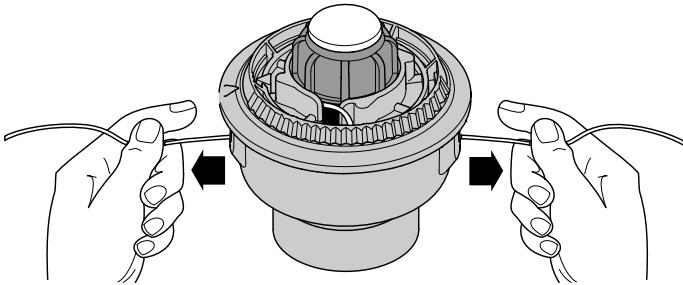

Fig. 21
9. If winding the line becomes difficult or the line jams, pull the ends of the line from the spool (Fig. 21). Continue winding the inner reel counterclockwise .
4. Hold the inner reel in place and install the bump knob, spring and foam seal. Press down and turn the bump knob clockwise. Grasp the ends and pull firmly to release the line from the holding slots in the inner reel. (Fig. 21).
If the SpeedSpool® does not release line correctly, pull the ends of the line firmly from the spool (Fig. 21). If this does not release line, follow the **Cleaning the SpeedSpool®** instructions.